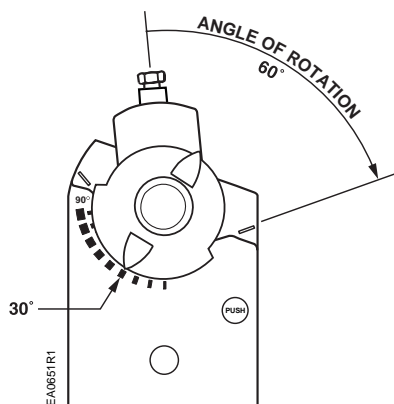

Figure 25. Mechanical Range Adjustment.
5. Remove the shaft adapter and insert it with the position indicator pointing to mark on the scale calculated in the previous step. See Figure 25.